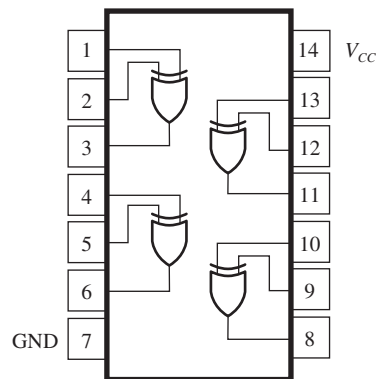

Figure P11
11. Repeat Problem 10 for a 5-bit even-parity checker. Use the pin configuration shown in Figure P11.